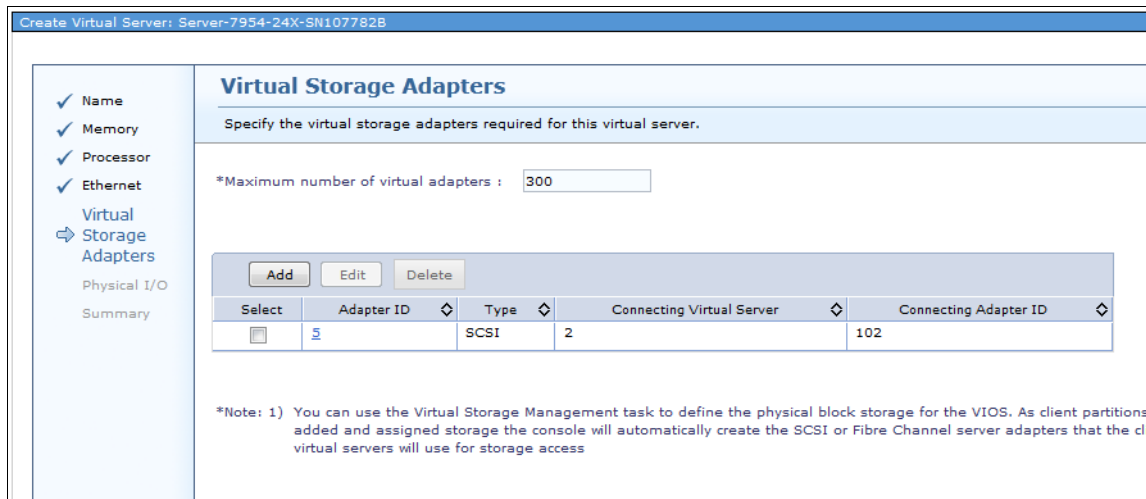

Figure 8-19 Defined virtual storage adapter properties
3. Click **OK** to save the settings for this virtual storage adapter, and return to the main virtual storage adapter window, as shown in Figure 8-19.